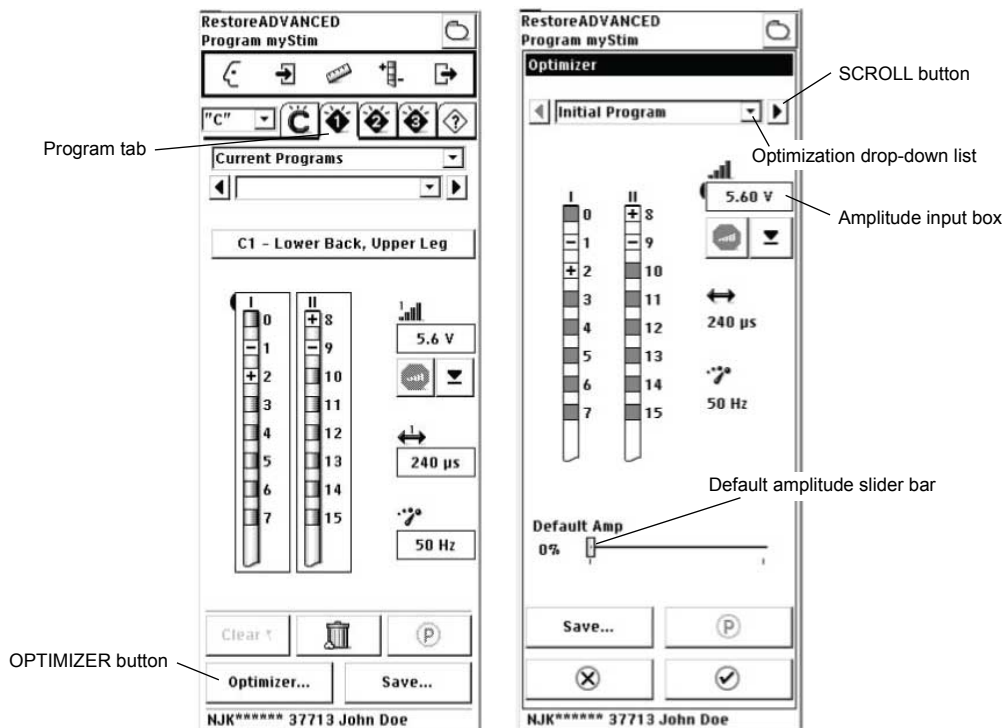

Figure 36. Using Optimizer.
4. Select the OPTIMIZER button (Figure 36).
5. Slide the default amplitude slider bar to the desired setting (Figure 36).
7. Select an optimization from the optimization drop-down list (Figure 36). The SCROLL RIGHT/ SCROLL LEFT buttons provide an alternative method to view and select an option.